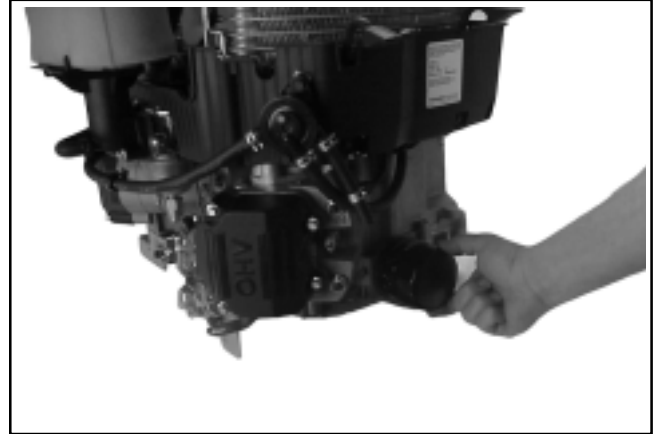

Figure 11-104. Installing Oil Filter.
3. Hand tighten the filter until the rubber gasket contacts the adapter, then tighten the filter an additional 2/3-1 turn. See Figure 11-104.